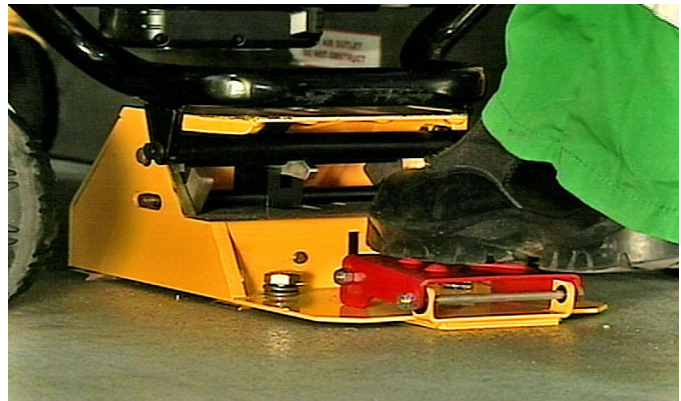

Figure 49 - Remove cot
2. Roll the cot out of the patient compartment (refer to Figure 49).